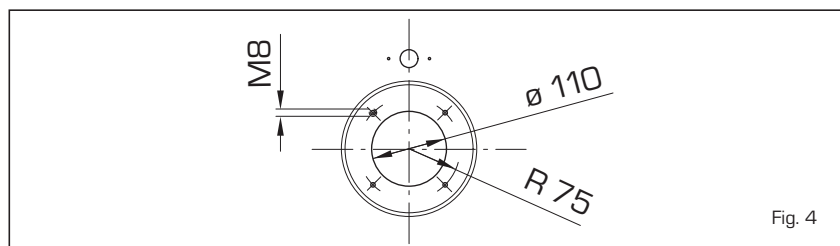

Fig. 4
1.7.4 Burners assembly (fig. 4)
The boiler door details is shown in figure 4 for burner mounting.